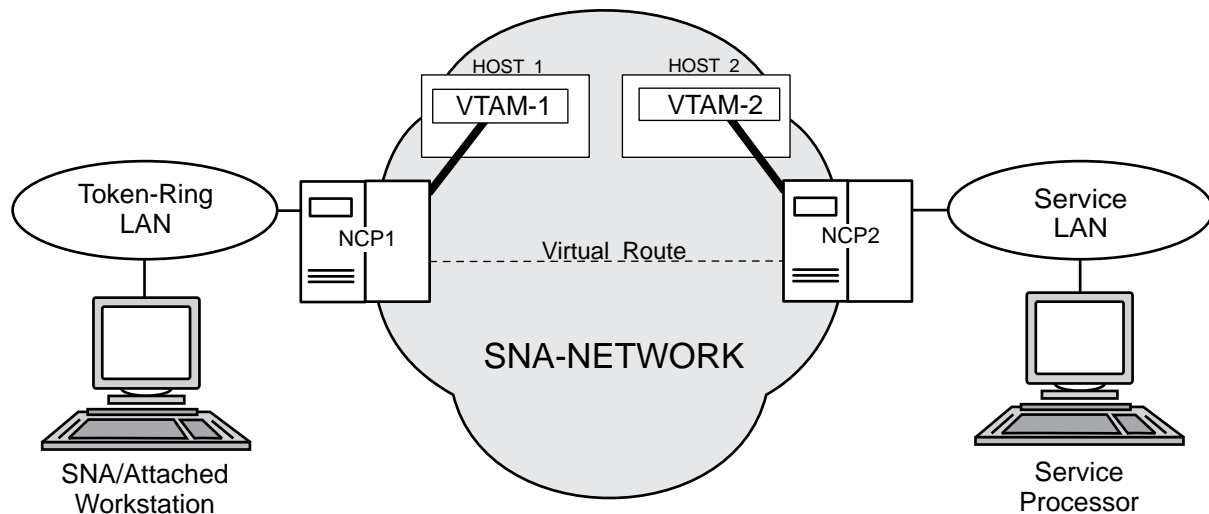

Figure 14-1. SNA Configuration
- Configure a DCAF session for controlling the service processor (see Figure 14-1).
The following definitions apply to NCP1 between the controlling workstation LAN and the SNA network (see Figure 14-1 on page 14-1).